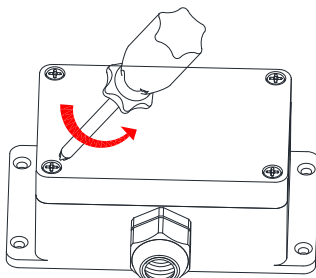

Fig. 1: 220 body and cover removal
2. Remove the top cover (see Fig. 1).